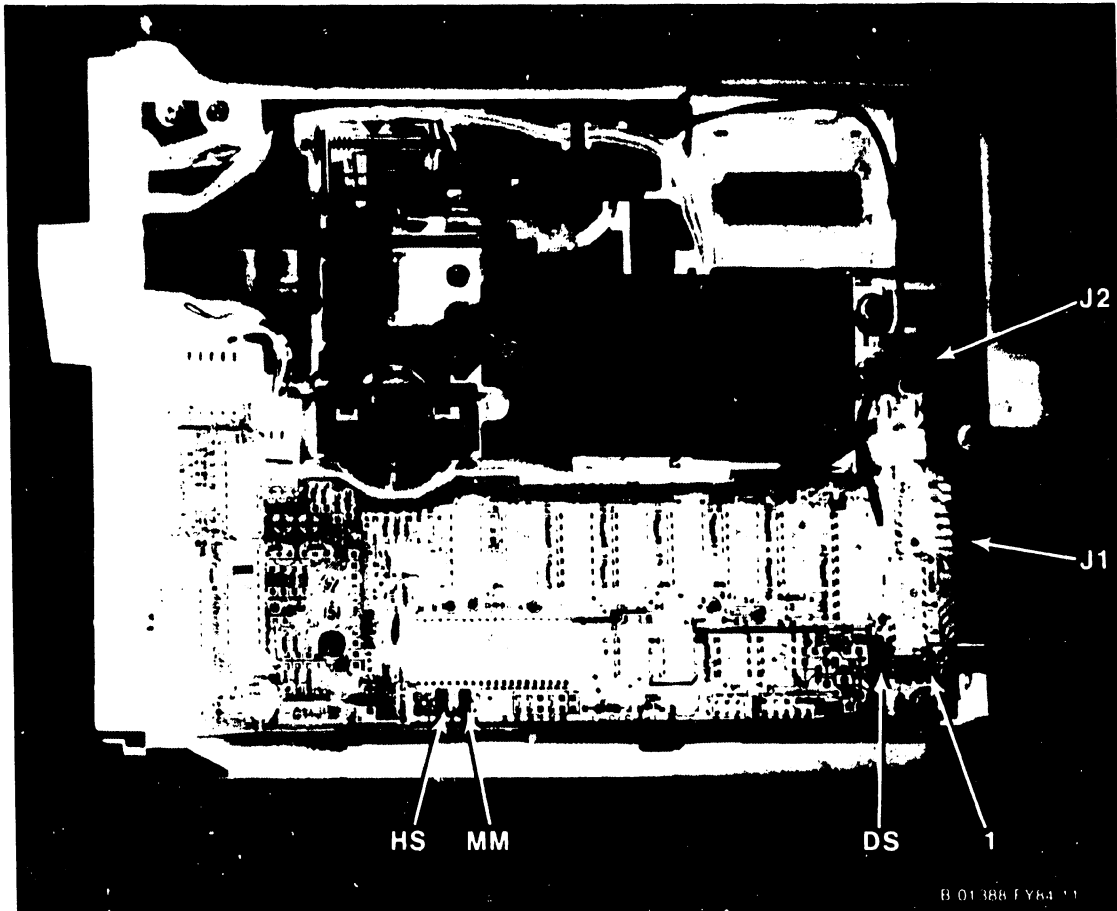

Figure 5-38. SA455 Diskette Drive PC Board Jumpers
3. Remove the 34-pin signal connector from J1, and the 5-pin dc connector from J2 on the rear of the drive. (Figure 5-38.) The connectors are keyed to ensure proper reinsertion.
2. Check the jumpers on the component side of the logic PC board of the drive. They should be the same as the drive that was removed, as shown in figures 5-38 and 5-39.